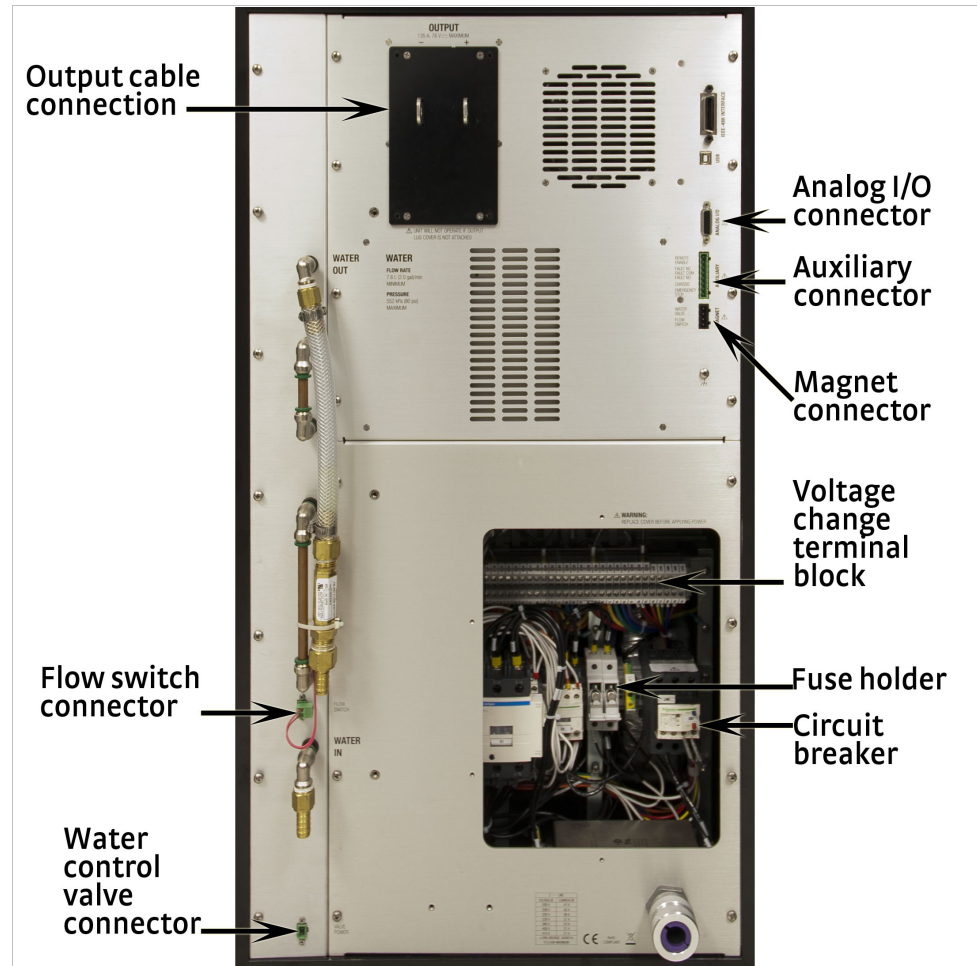
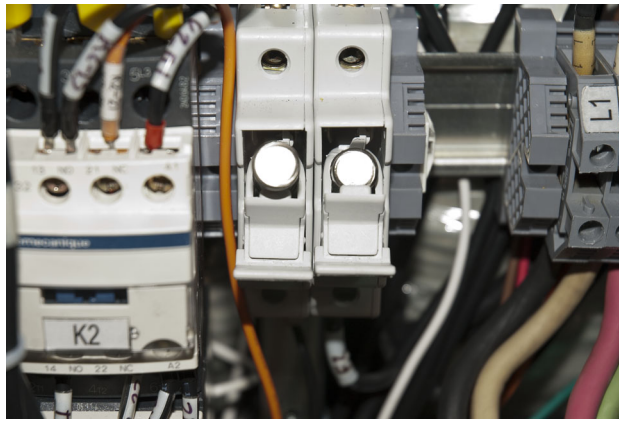

FIGURE 6-2 Model 648 rear panel: Left: Bottom half (shown with wiring cover removed); Right: Top half
FIGURE 6-5 Fuse drawer
The Model 648 may be configured for seven basic AC power configurations: 200 VAC, 208 VAC, 220 VAC, 230 VAC, 380 VAC, 400 VAC, and 415 VAC. Proper voltage selection must be made before connection to the power mains. Each configuration requires the appropriate wiring within the power wiring access panel on the rear of the instrument. Nominal line voltages and appropriate selections are shown in TABLE 6-1. Refer to section 3.4.1 for further details. See FIGURE 6-2 for general locations.
5. Refer to FIGURE 6-2 to locate the fuse detailed in FIGURE 6-5.
5. Locate the two fuse holder assemblies as shown in FIGURE 6-2 and in FIGURE 6-5.
7. Check the fuse for continuity. Replace fuse(s) if necessary. Fuses should be replaced in pairs. Fuses are inserted small-end first as shown (FIGURE 6-5).